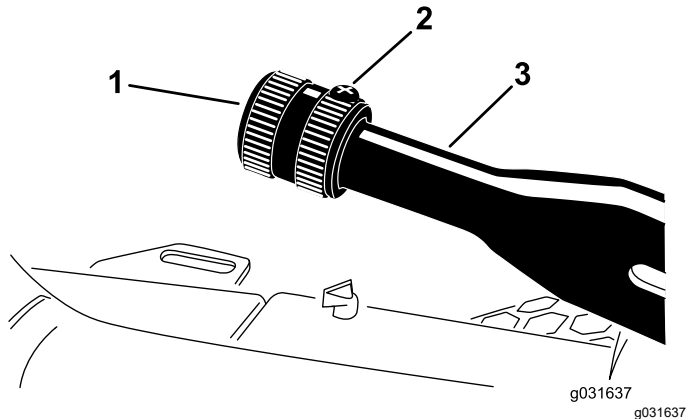

Figure 58
1. Loosen the set screw securing the knob to the parking-brake lever (Figure 58).